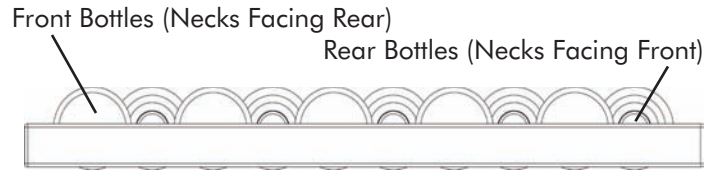

Figure 10
The six (6) roll-out shelves each hold eight (8) bottles. See Figure 10 for typical wine bottle spacing. Tall bottles should not be loaded on the bottom rack because they may prevent the door from closing.